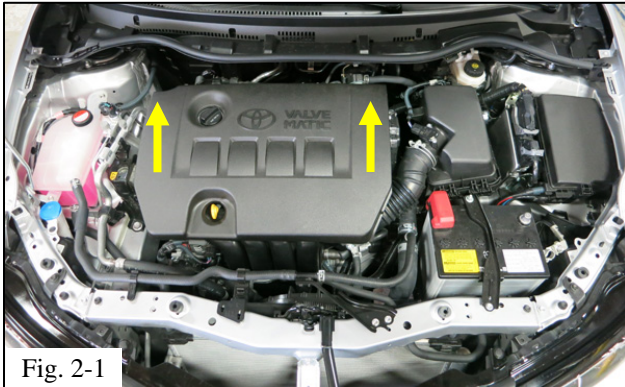

Fig. 2-1
- (a) Lift (pull) straight up to remove the engine cover (Fig. 2-1).